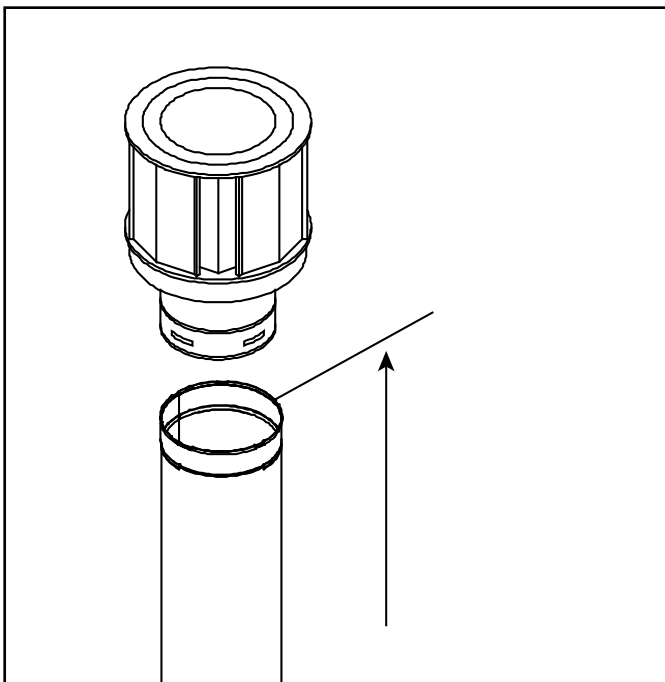

Figure 4.8. Measure to Top of Last Section of Pipe
- Vertical terminations are measured to top of last section of pipe. See Figure 4.8.